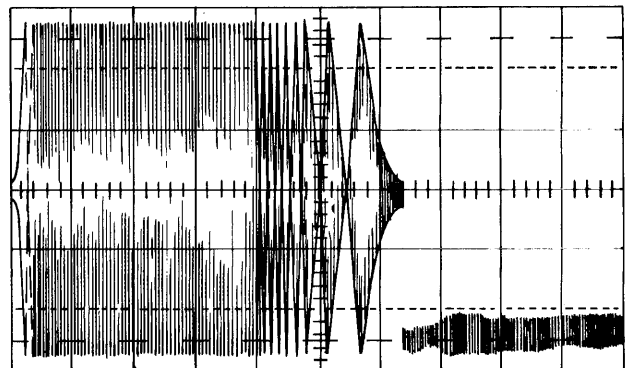

Figure 5-57. Cylinder Transducer Final Check
- r. Observe and ensure that output of cylinder transducer during repetitive 203 cylinder seeks is within specifications given in Table 5-6, and appears as shown in Figure 5-57.